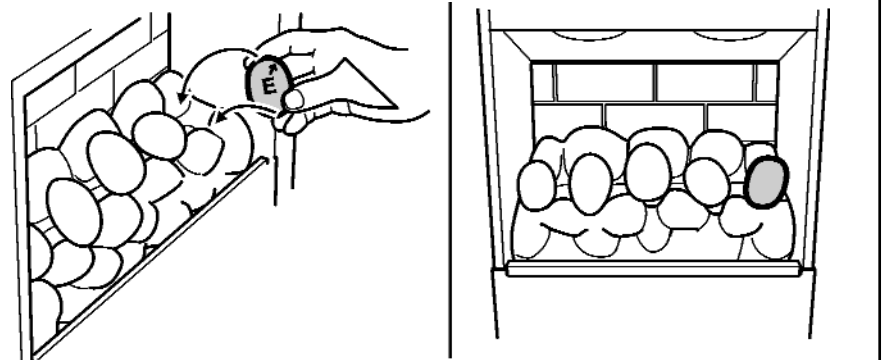

Figure 29.
6. Hold pebble 'E' upright with the arrow pointing to the top. Locate pebble 'E' as shown in figure 29.